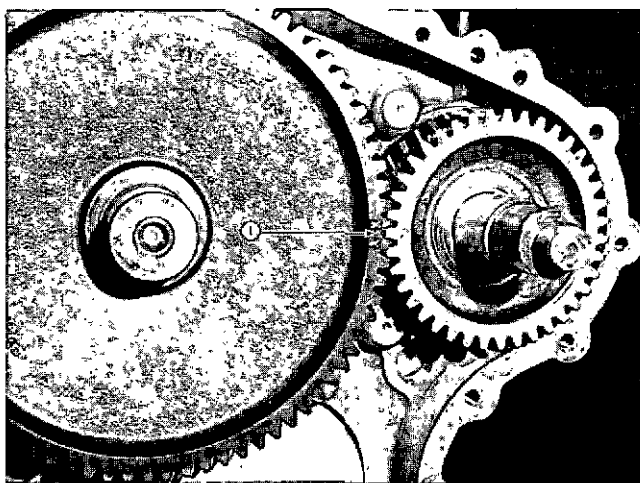

Fig. 14-1-45, V414145. Timing marks alignment
3. Install drive in gear case aligning single "X" on drive gear between double "X" marks on right-bank camshaft gear (1, Fig. 14-1-45). This procedure is necessary to assure proper positioning of external timing marks on water pump drive pulley to show correct injector and valve adjustment position.
1. Before installing gear case cover, check to be sure that all "O's" and "X's" on the gear train are properly indexed. Fig. 14-1-34 and Fig. 14-1-45.